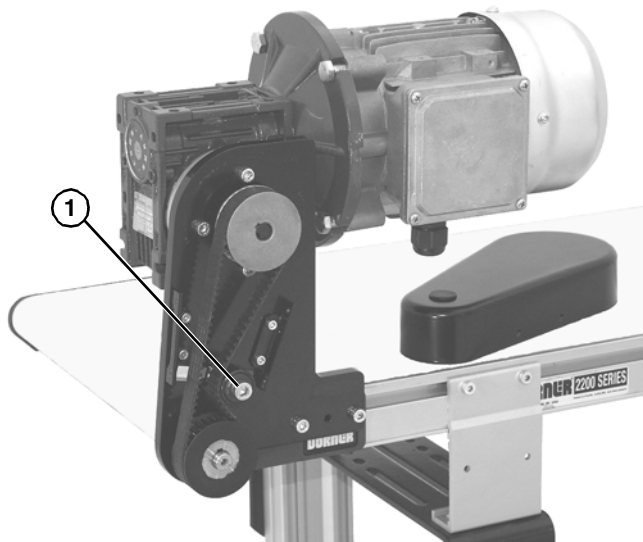

Figure 23
2. Loosen tensioner (**Figure 23, item 1**).